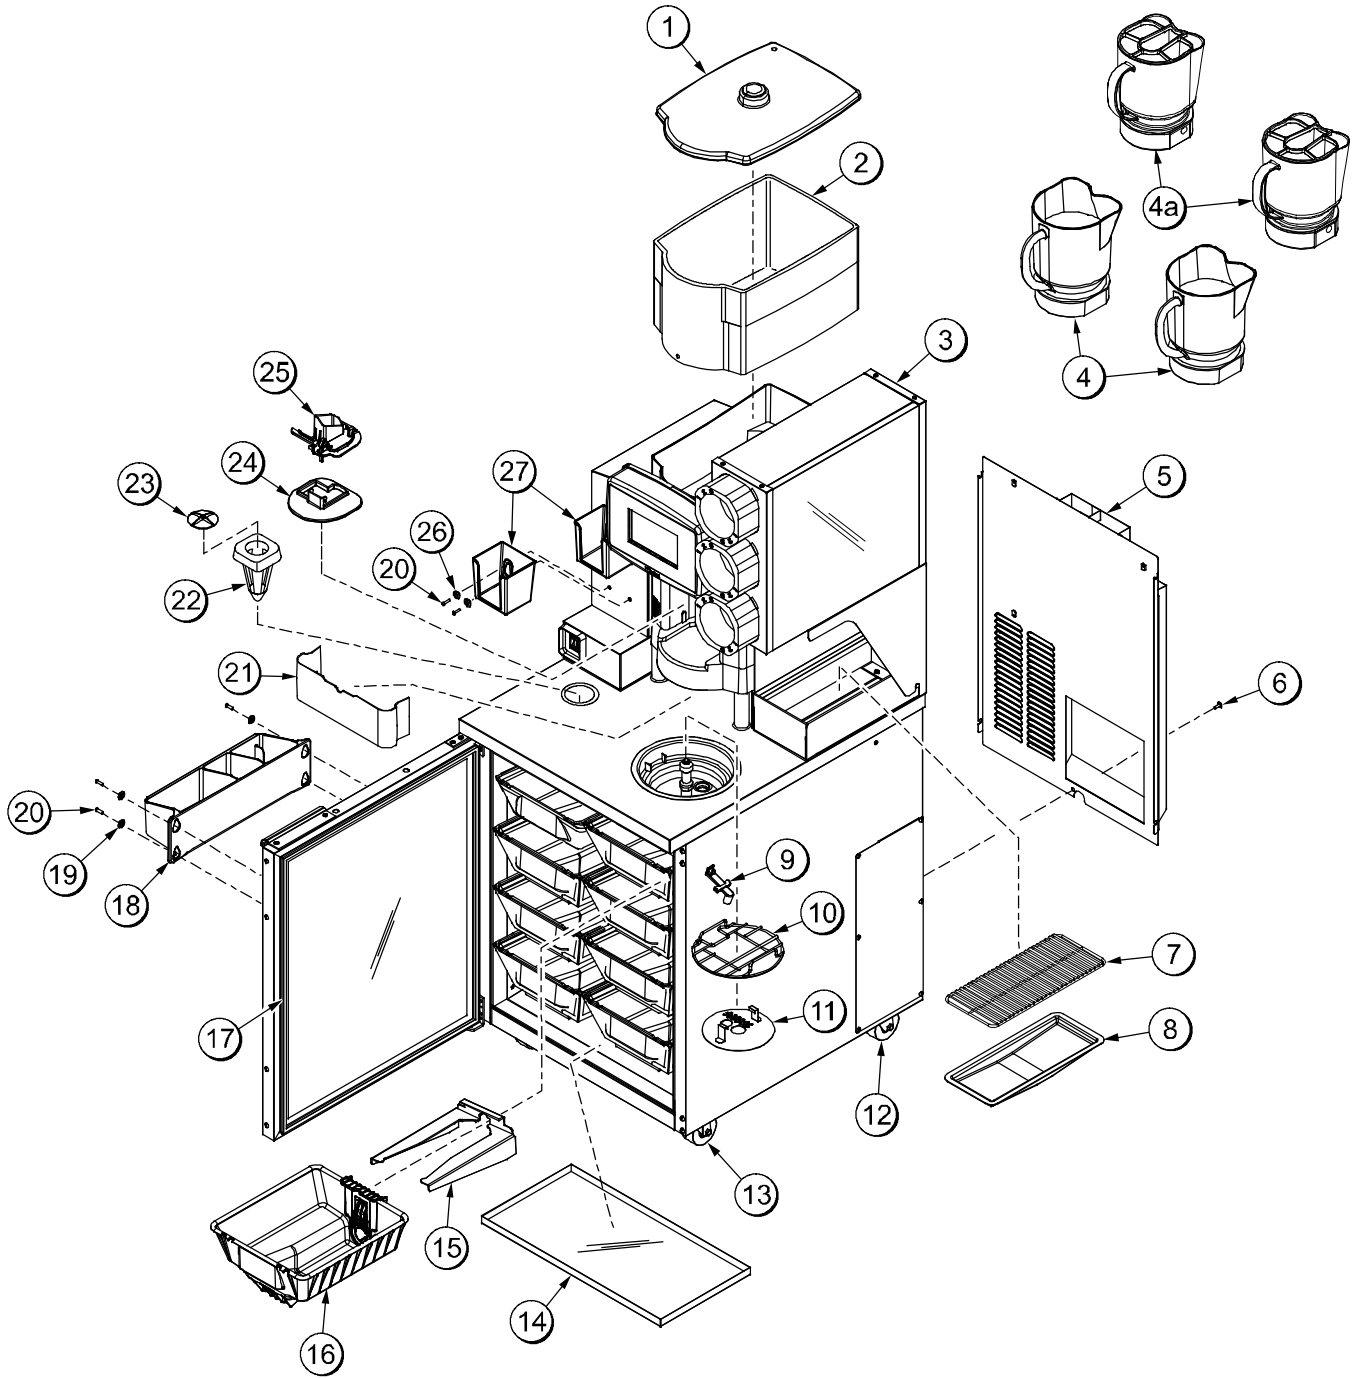

Figure 1
### Exploded View (See Figure 1 )
**Exploded View (See Figure 1)**